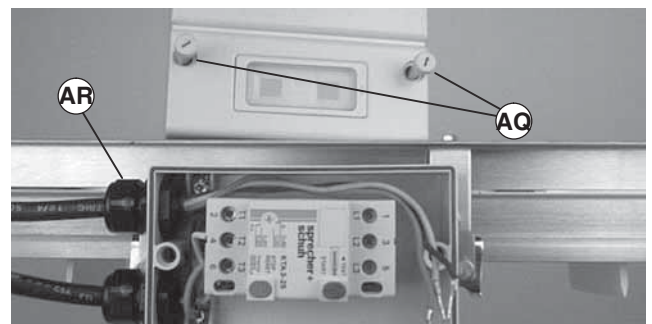

Figure 22
- Loosen cover screws (Figure 22, item AQ). Remove cover.
5. Install cover and tighten screws (Figure 22, item AQ).